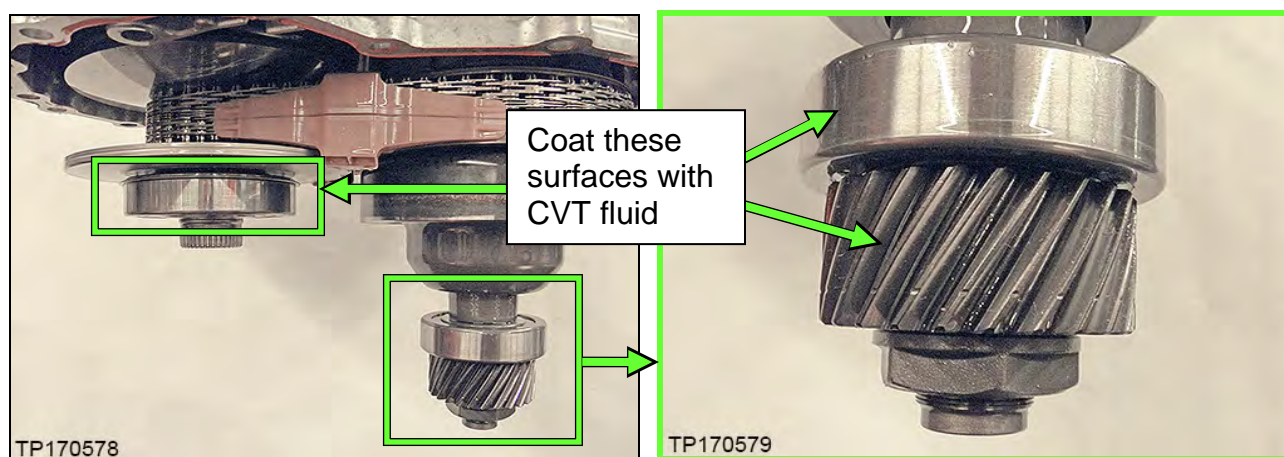

Figure 20E
20. Coat the primary pulley bearing, secondary pulley gear teeth and the secondary bearing with CVT fluid prior to installation (Figure 20E).